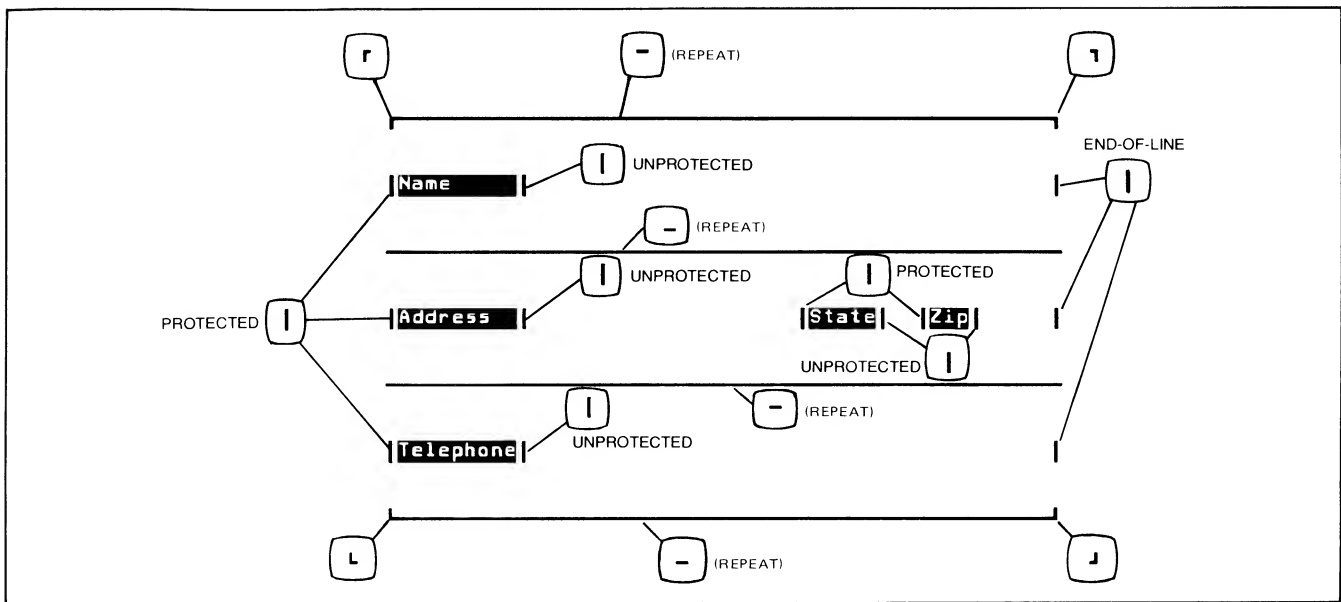

Figure A-5. Building a Form — Phase 1
- 2. Starting at the top left of your form, proceed to build your form — left to right — top to bottom. The soft key overlay will help you by giving the function of each key. Figure A-5 shows the details of building the sample form line-by-line during the first phase. The field headings (Name, Address, etc.) are "protected", and the fields to be filled by an operator are "unprotected".